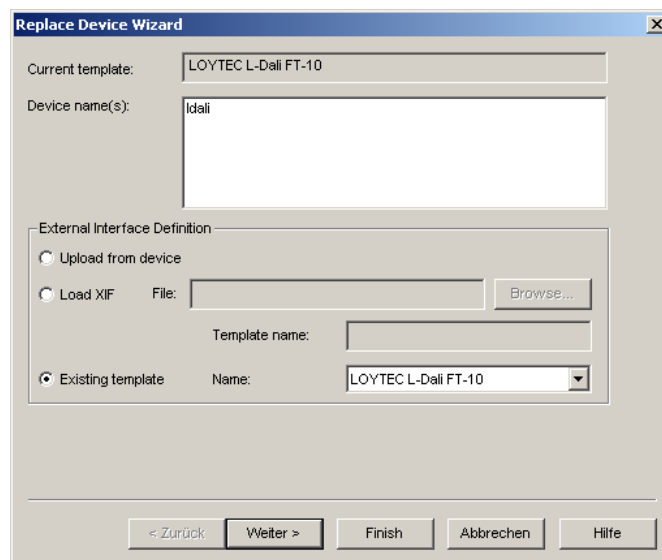

Figure 91: LonMaker replace device wizard.
2. Select **Commissioning** → **Replace....** This opens the LonMaker Replace Device Wizard as shown in Figure 91.